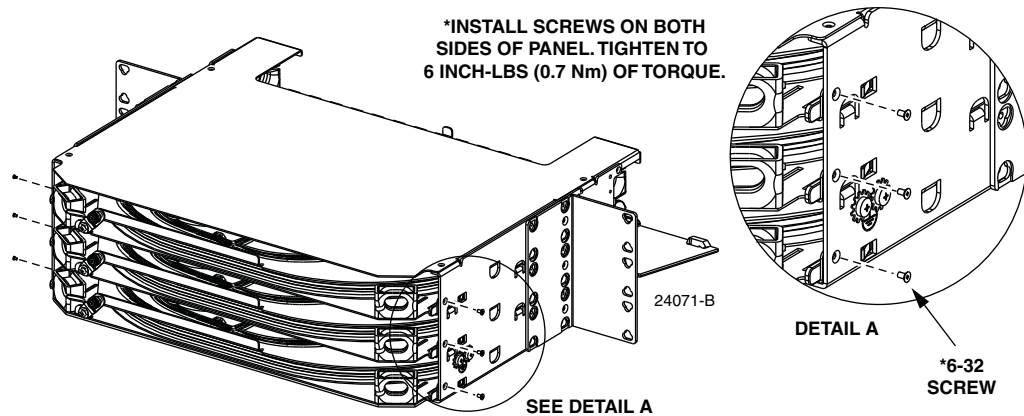

Figure 48. Install #4-40 Bonding Screws
9. Install the #4-40 screws on either side of the panel shell at the points indicated in Figure 48. Tighten to 6 inch-lbs (0.7 Nm) of torque